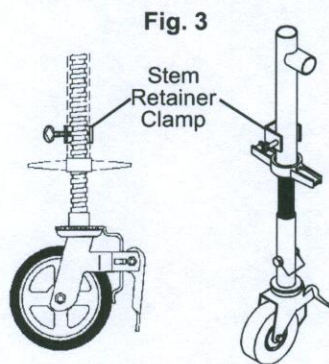
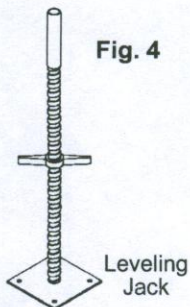
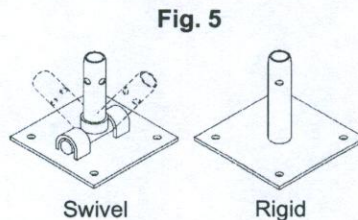

Fig. 3
Fig. 4
Fig. 5
3. Insert casters and secure with attaching pin or bolt. Set brakes on all casters (Fig. 2) before proceeding with tower erection. If leveling casters or extensions are used, secure with stem retainer clamp, wire, or other suitable means (Fig. 3). Do not extend leveling screws more than 12". If application does not call for a Rolling Tower, follow above procedure and replace casters with leveling jacks (Fig. 4) or base plates (Fig. 5) on mud sills.